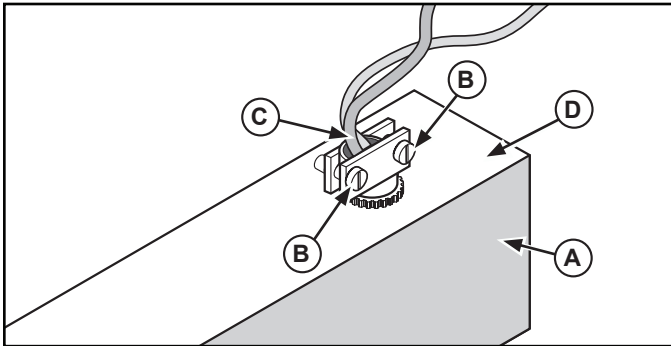

Figure 3. Strain Relief Screws, Wire Channel Box and Wires.
5. Thread the fitting (B) into the well bottom (A) and tighten.
7. Remove the hardware securing the cover (A) on the wire channel box (D). See Figure 3.
12. Strip 3/8" (10 mm) of insulation (C) from the wire. There is a gauge that shows the correct measurement to be stripped on the lever connector. Twist the exposed wire slightly so that it stays together inside the connector.
13. Lift lever to the up position (A).
14. Insert the stripped portion of wire into the lever connector and put lever into the closed position (B). **No bare wire can be exposed from the connector.**
15. After all the connections have been made secure the cover (A) onto the wire channel box (D) using the hardware that was removed earlier. Figure 3.
16. Tighten the screws (B) by hand to prevent cutting the wire insulation. See Figure 3.